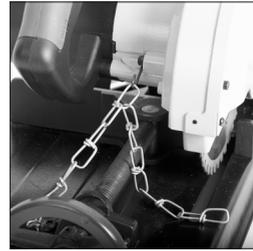

Fig. 1
- Unhook the Lock Down Chain from the Lock Down Hook. (Fig. 1). Allow the Cutting Head to rise to its upper position.